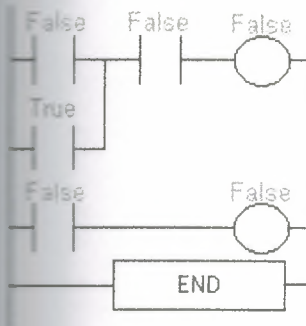
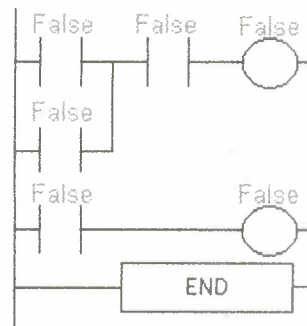

Figure 4.6
Figure 4.7
Notice that even when the low level sensor is false there is still a path of true logic from left to right. This is why we used an internal relay. Relay 1000 is latching the output (500) on. It will stay this way until there is no true logic path from left to right. (i.e. when 0001 becomes false) After 1000 scans the oil level rises above the high level sensor at it also becomes open (i.e. false) (Figure 4.6 and Figure 4.7)